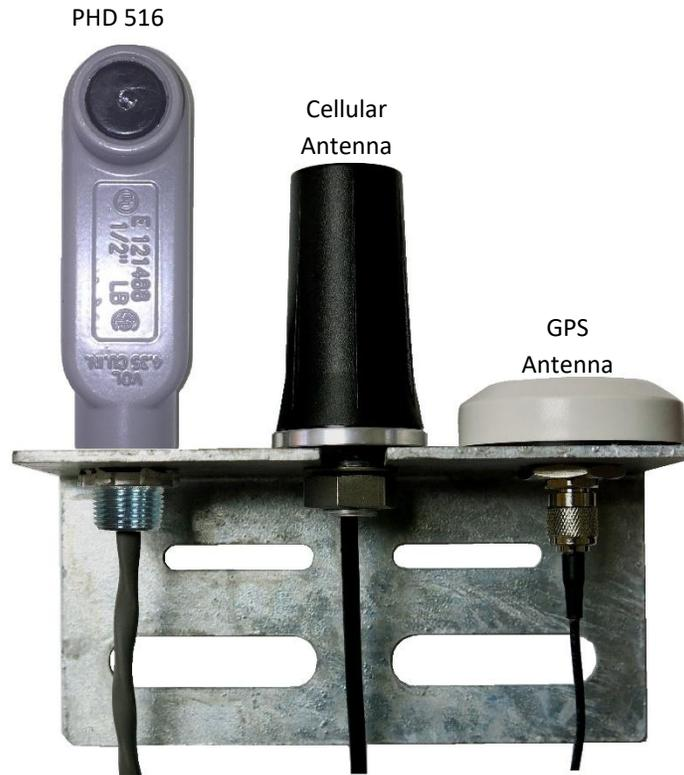

Figure 2.1 – Antenna Mounting Bracket with PHD 516, Cellular, and GPS Antennas
The photodiode, also referred to as PHD 516, is shown in Figure 2.1 (page 34) and mounting and outline dimensions are shown in Figure 2.12 (page 47). The photodiode uses a female 1/2-inch NPT for mounting. Use the following guidelines to mount the photodiode:
A cellular antenna is required with either of the optional cellular modems shown in Figure 2.1 (page 34). The supplied antenna mounting bracket accommodates bulkhead mount style antenna as shown in Figure 2.2 (page 34). Figure 2.1 shows the bulkhead mount style antenna installed with the photodiode and GPS antennas. The antenna connects directly to the modem, as shown in Figure 2.26 (page 64) and Figure 2.31 (page 69). Follow the method below to install the antenna.
Choose a location for mounting the cellular antenna that will provide optimal reception. The included mounting bracket can simultaneously accommodate a Vanguard Photodiode, Cellular Antenna, and GPS Antenna as shown in Figure 2.1 (page 34).
2. The cellular antenna **must be mounted at the center of the bracket** as shown in Figure 2.1 and Figure 2.2 (page 34). Follow the location recommendations noted in Photodiode Mounting (page 32) and GPS Antenna if it is installed along with the photodiode and/or GPS antenna.
The GPS antenna, shown in Figure 2.1 (page 34), is required with the GPS-enabled PCB3 Smart Board shown in Figure 1.6 (page 26). Follow the method below to install the GPS antenna.
1. For best reception and synchronization, choose a location for mounting the GPS antenna with an unobstructed view of the sky. The included mounting bracket can simultaneously accommodate a Vanguard Photodiode, Cellular Antenna, and GPS Antenna (see Figure 2.1 (page 34)).